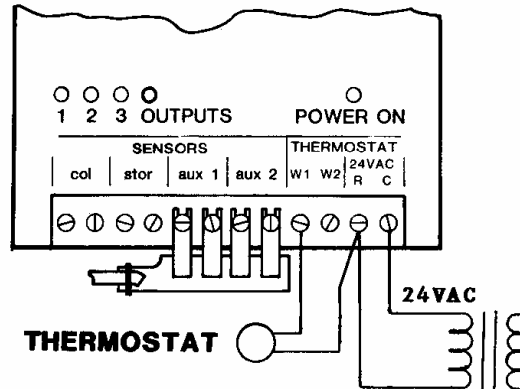

FIGURE 10
**QC-1 SETUP:** Connect QC1 per fig. 10
**QC-1 SETUP:**       Connect QC1 per fig. 10